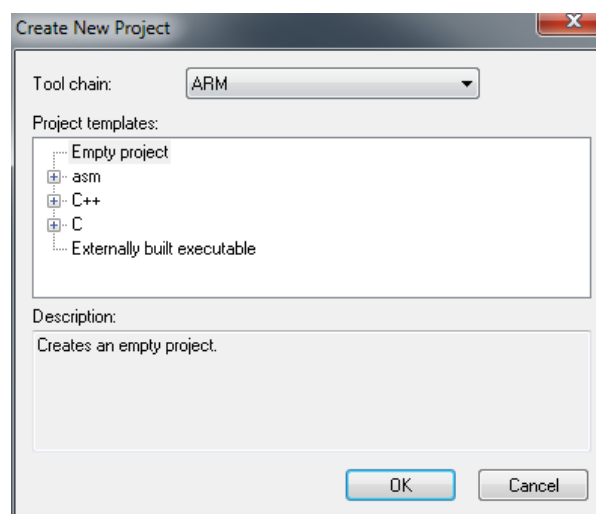

Figure 3.6: A window to create a new project
- Click “Project” option in the menu, and then click “Create New Project ...” to get a window as shown in Fig. 3.6.